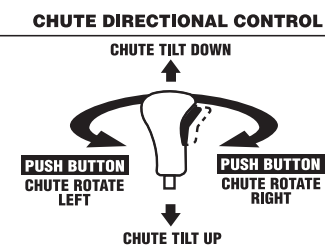

Figure 3-9
- To change the direction in which snow is thrown, squeeze the button on the joystick and pivot the joystick to the right or to the left. See Figure 3-9.